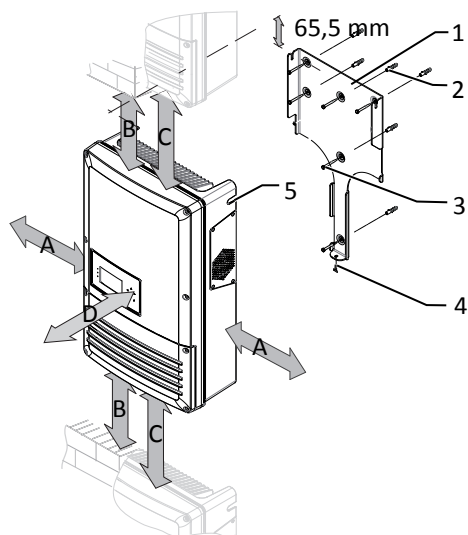

Fig. 7: Minimum clearances for wall mounting
- 3 Insert the screw provided into the lug of the mount and secure the device to prevent it from being lifted off [See figure 7] [▶ Page 15].